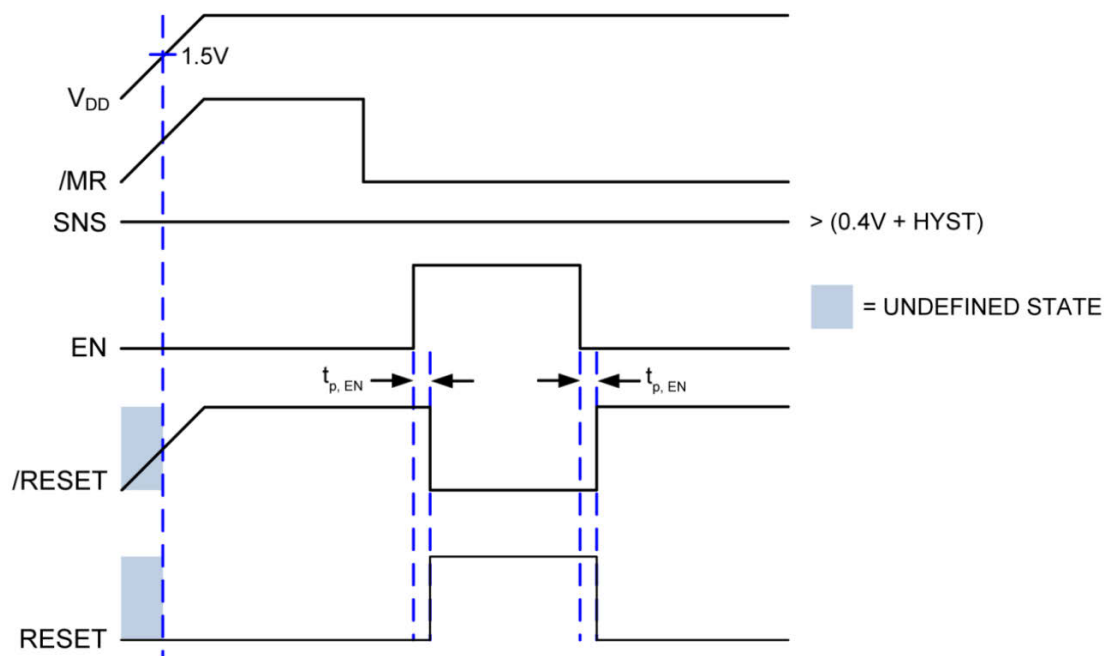

Figure 3. Hold and Propagation Delay from EN to RESET and /RESET
The enable (EN) pin feature is only available in the MIC2793 option and has an internal pull-up of 90kΩ resistor to VDD. A logic high signal on EN pin enables the reset logic outputs, while a logic low signal disables the reset outputs. See Figure 3 in the Timing Diagrams section for more information.